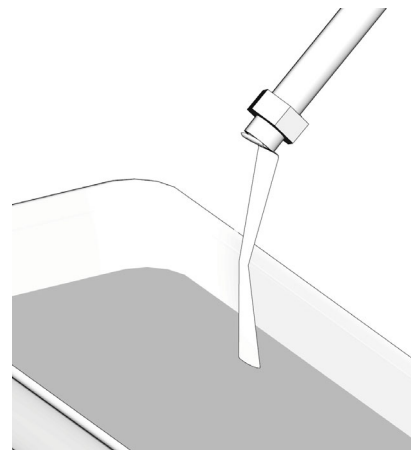

FIG. 9
- Pump lubricant through line until all solvent is flushed out (FIG. 9).